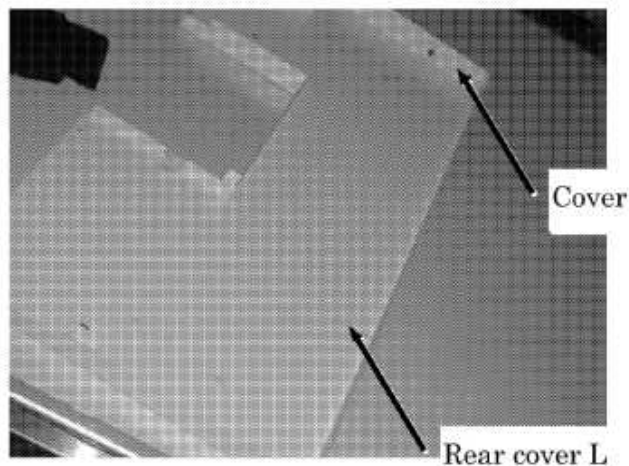

Fig. 6. 1
1. Remove cover from rear cover L and rear cover R.(Fig. 6. 1)
2. Install the spacer and the handle support on the bucky mount. (Fig. 6. 2)